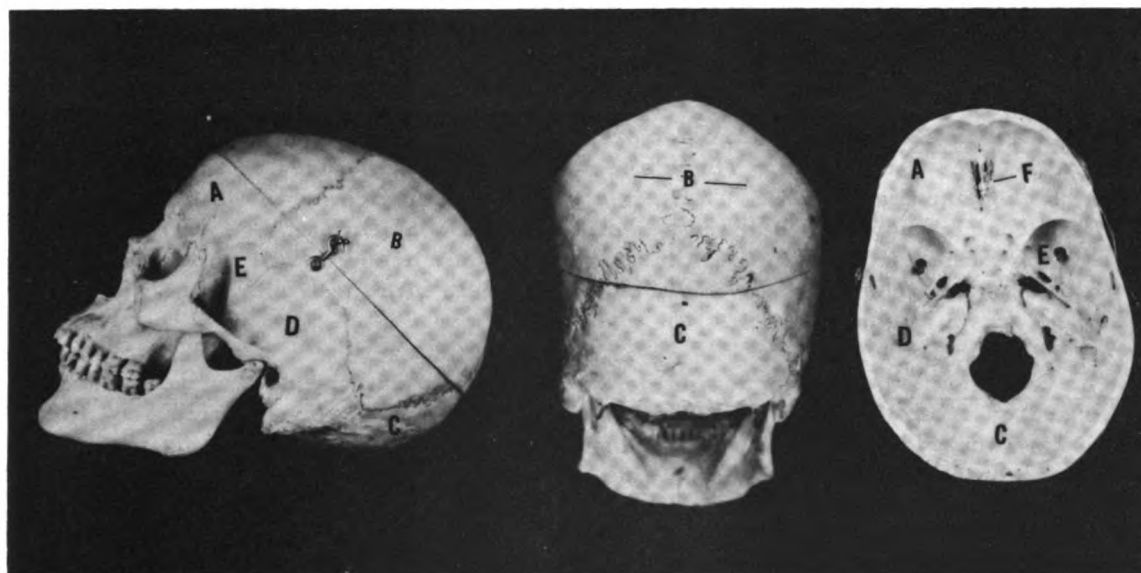

Figure 4-25 The Skull - Lateral, Posterior and Internal Base Views
CRANIAL BONES. The eight bones of the cranium are the **FRONTAL BONE (A)**, **TWO PARIETAL BONES (B)**, **THE OCCIPITAL BONE (C)**, **TWO TEMPORAL BONES (D)**, **THE SPHENOID BONE (E)** AND **THE ETHMOID BONE (F)** as shown in Figure 4-25.